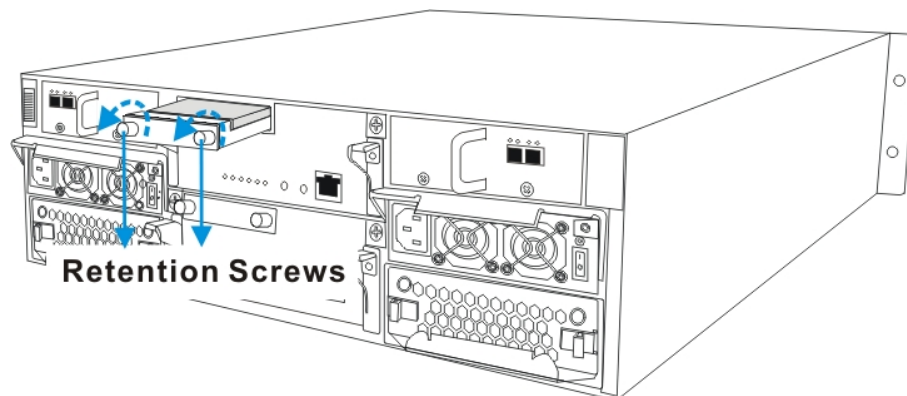

Fig. 2.3 Fastening the BBU Retention Screws
3. Secure the BBU to the subsystem by fastening the two (2) retention screws on the BBU rear panel. (See Figure 2.3)